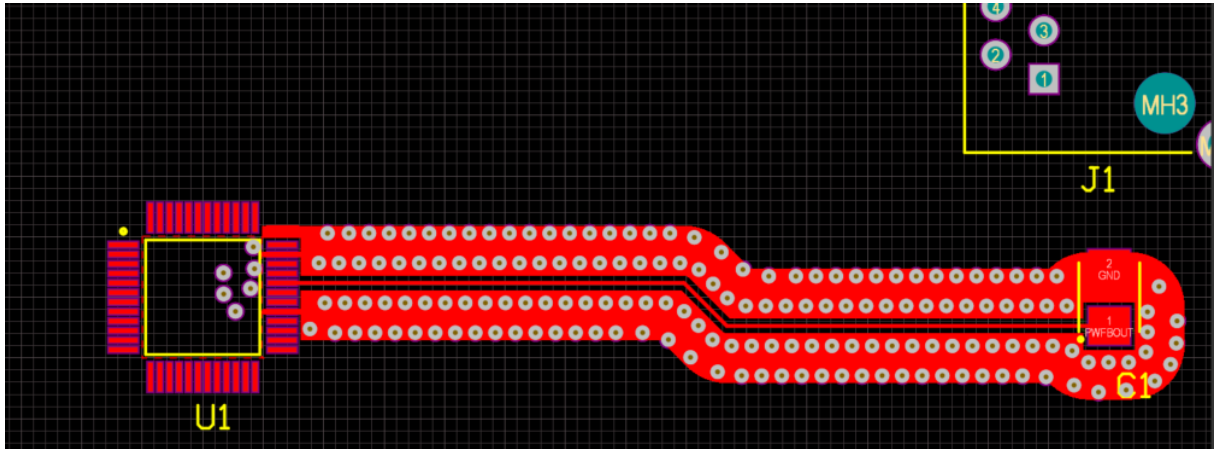

Figure 10. Polygon Pour within component U1
29. Right-click twice to exit the cutout command. Your PCB should now look similar to Figure 10. If not, you'll need to repour the polygon from the **Tools** menu.